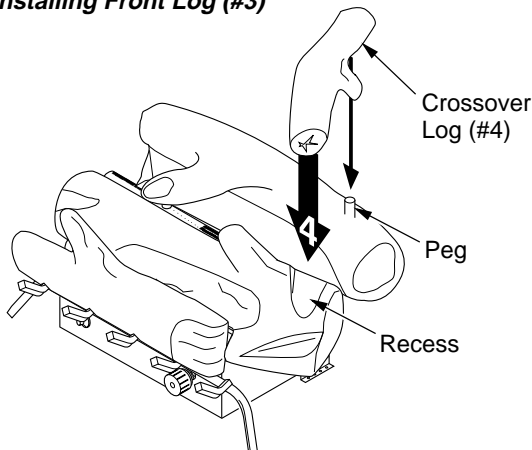

Figure 24 - Installing Crossover Log (#4)
4. Place crossover log (#4) onto the pin (right) on back log (#2) and into the recess of the middle log (#1) (see Figure 24, page 15).